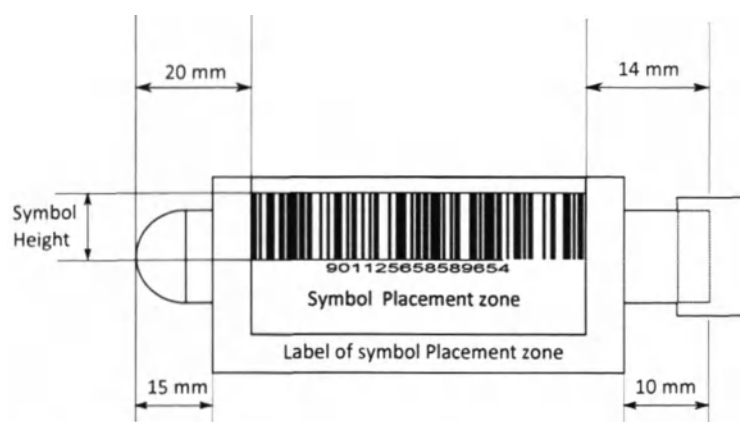

Figure 10 Positioning of the label on the primary tube
- Respect the barcode label position margins, as shown in Figure 10.